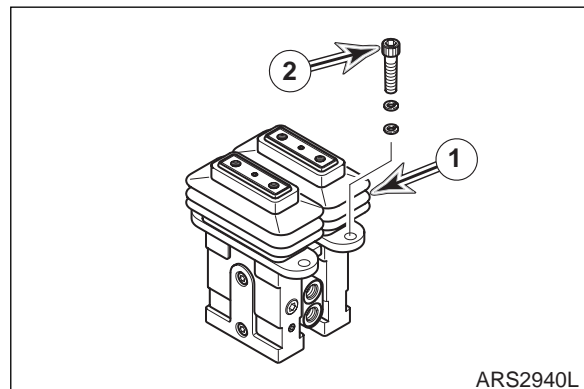

Figure 8
8. Tag and disconnect hoses from pedal valve (1, Figure 8). Plug and cap hoses and ports to prevent contamination from entering hydraulic system or component.